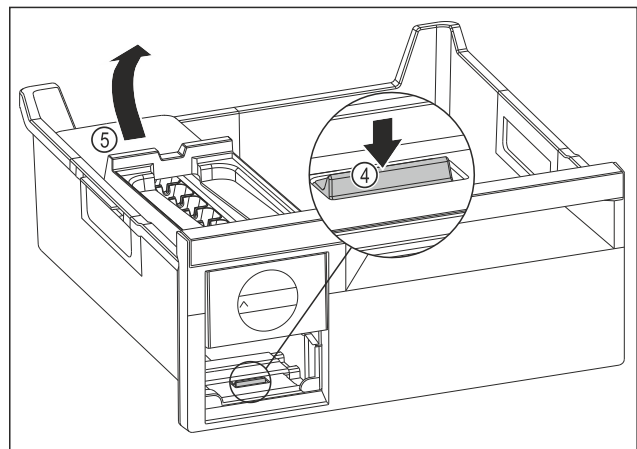

Fig. 154
- ▶ Removing the EasyTwist-Ice body: Use your finger to press the tab Fig. 154 (4) downward while at the same time lifting the EasyTwist-Ice body Fig. 154 (5) from behind with the other hand.